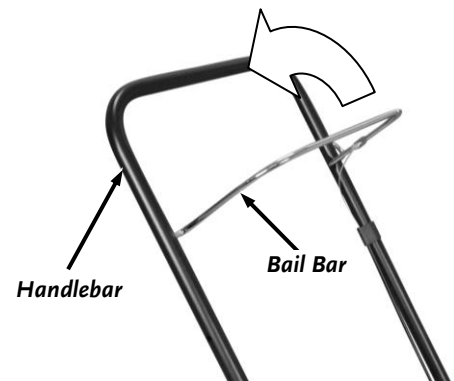

Figure 10
2. Pull the Bail Bar and hold it against the Handlebar (**Figure 10**).